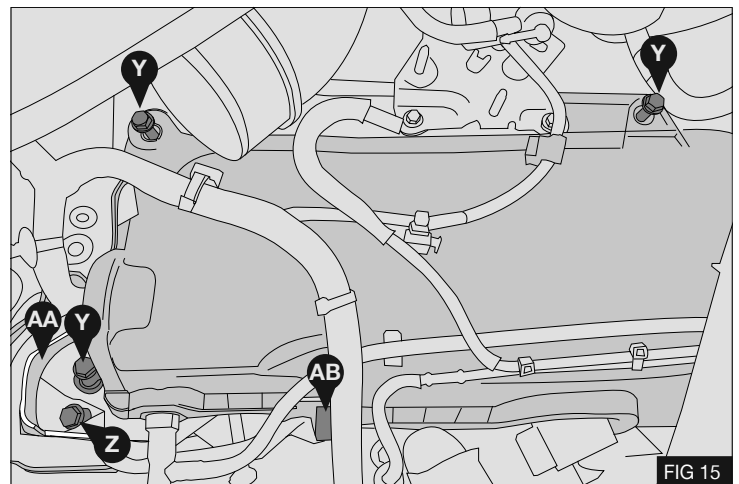

FIG 15
10. Reconnect connectors (AC) and (AD) (Fig 16), reassemble the injector cover (V) - Fig 16), and intercooler piping (Fig 15) in reverse order.